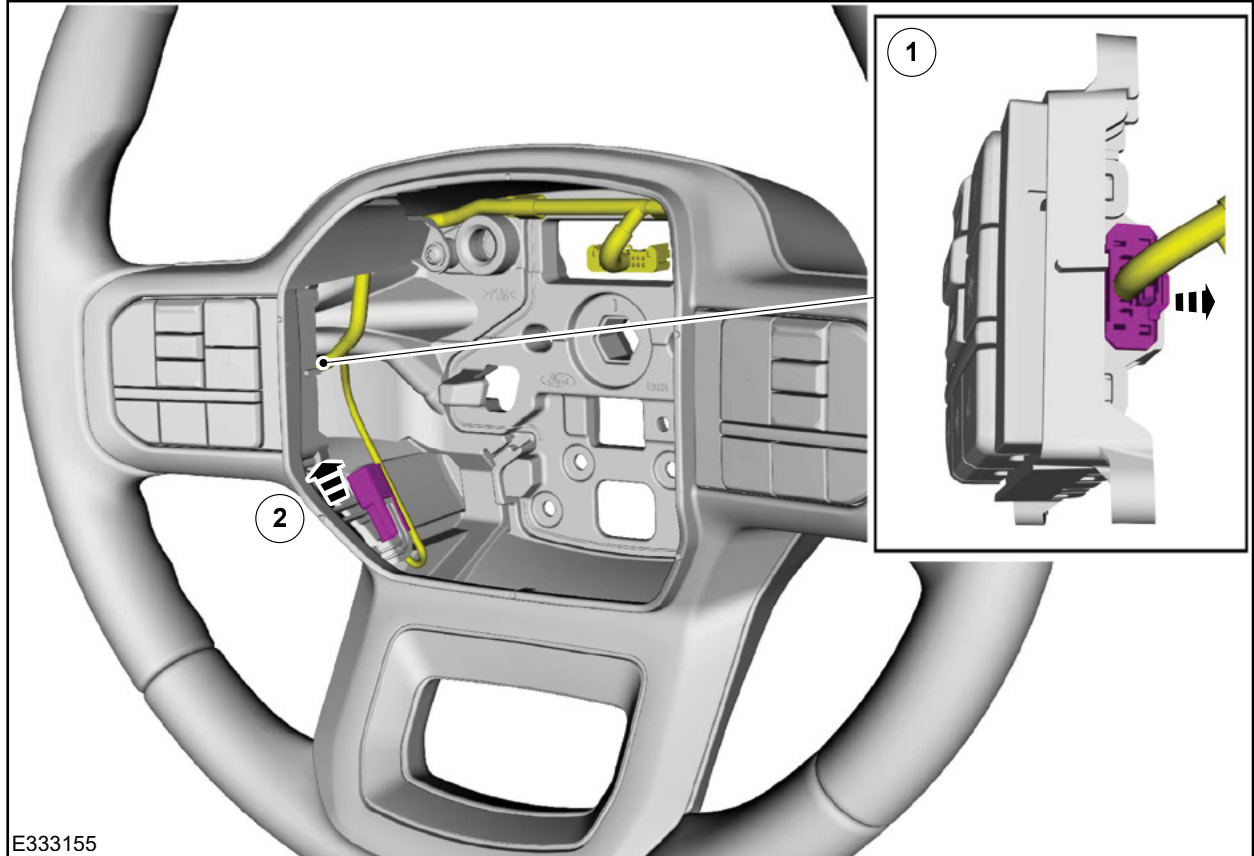

FIGURE 20
1. On both sides, disconnect the electrical connector See Figure 20.